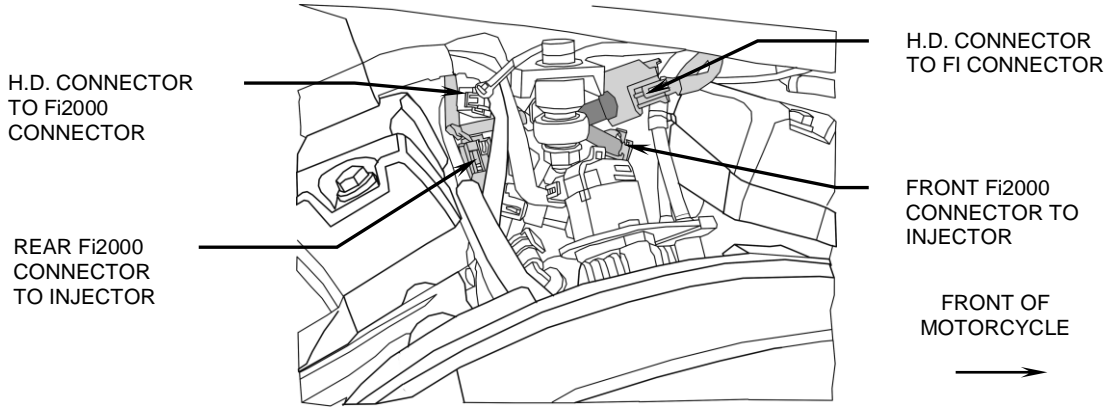

FIGURE 1
2. Locate the factory connector on each fuel injector. Depress the tab on the connector and pull the connector free from the injector and move it out of the way. **Note:** A pair of needle nose pliers and a long flat blade screwdriver helps with this job, see Figure 1.
4. Route the Fi2000 module's forward injector plug, with the red and brown wires behind the existing wires and under the upper motor mount assembly. Connect the Fi2000 gray connector onto the injector and insert the black connector into the original Harley connector, Figure 1.
5. Attach the Fi2000 module's rear female injector plug, with the red and green wires, onto the rear injector. Then take the original female HD connector and insert the corresponding male Fi2000 connector, refer to Figure 1. Tuck both front and rear injector connections out of the way.